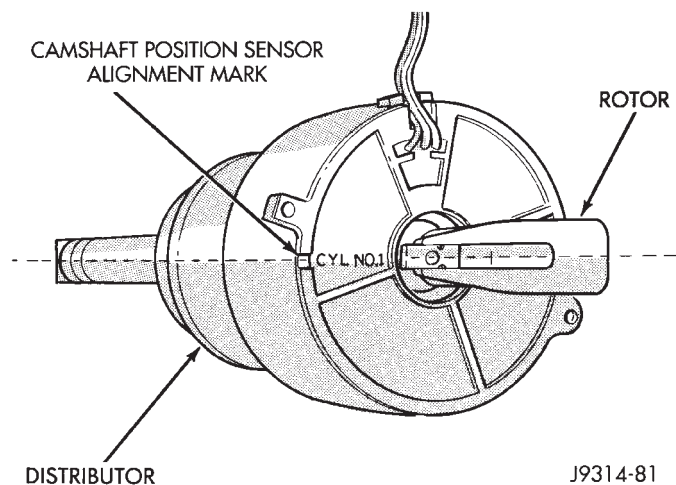

Fig. 57 Rotor Alignment Mark
(8) The distributor rotor should now be aligned to the CYL. NO. 1 alignment mark (stamped) into the camshaft position sensor (Fig. 57). If not, rotate the crankshaft through another complete 360 degree turn. Note the position of the number one cylinder spark plug cable (on the cap) in relation to rotor. Rotor should now be aligned to this position.
(1) Clean top of cylinder block for a good seal between distributor base and block.
(2) Lightly oil the rubber o-ring seal on the distributor housing.
(3) Install rotor to distributor shaft.
(4) Position distributor into engine to its original position. Engage tongue of distributor shaft with slot in distributor oil pump drive gear. Position rotor to the number one spark plug cable position.
(5) Install distributor holddown clamp and clamp bolt. Do not tighten bolt at this time.
(6) Rotate the distributor housing until rotor is aligned to CYL. NO. 1 alignment mark on the camshaft position sensor (Fig. 57).